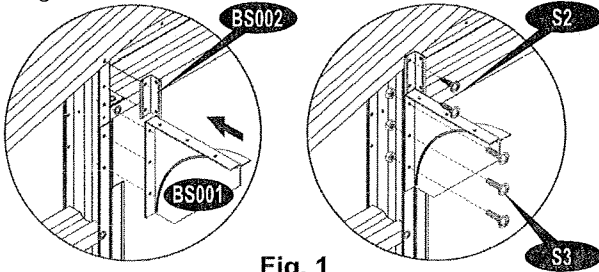

Fig. 1
12. Fix shutter door runner left and right (BS001) with (S3) machine screws with nut. Fix the bracket shutter runner left and right (BS002) with (S2) screws. See fig. 1.